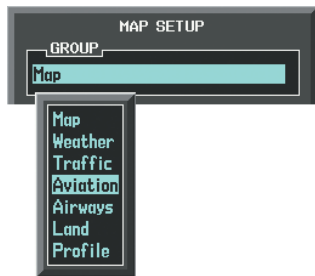

Figure 6-95 Navigation Map Page Setup Menu
- 4) Turn the small **FMS** Knob to select the Aviation Group and press the **ENT** Key (Figure 6-95).